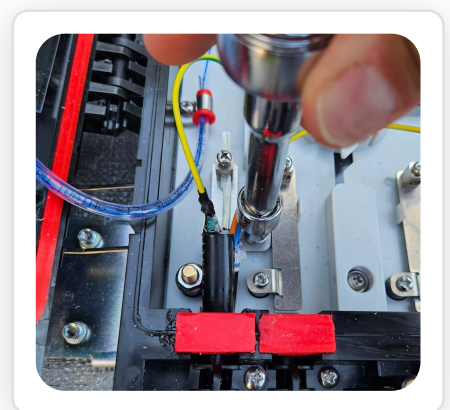

Fig. 2c
- Use an 8mm socket/driver to tighten the grounding lug as shown in Fig. 2c.